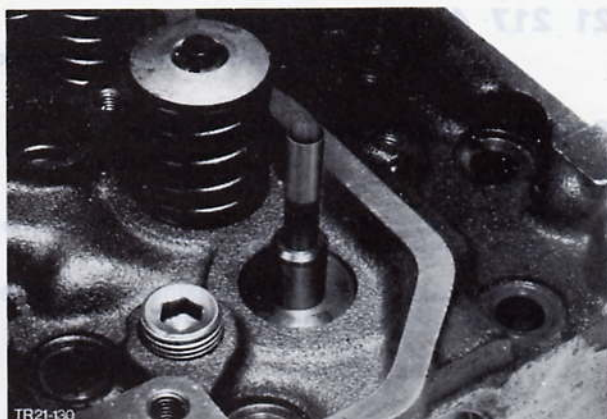
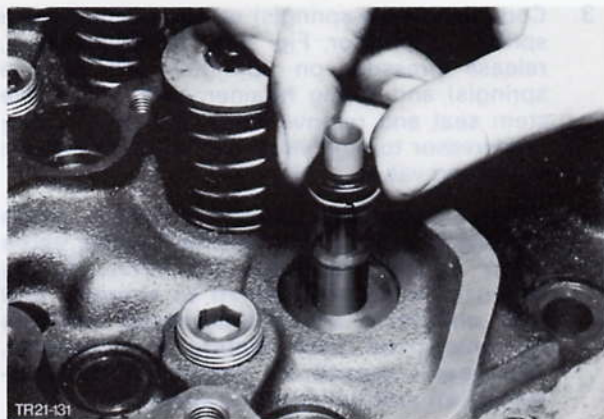

Fig. 116. Cover valve splines with adhesive foil
Fig. 117. Fit valve stem seals
5. Lubricate and insert valves. Cover splines with adhesive foil, Fig. 116. Slide valve stem seals into position against stop, Fig. 117 and remove adhesive foil. Replace valve springs and valve spring retainers, compress with spring compressor and refit collets, paying attention to correct collet seating.